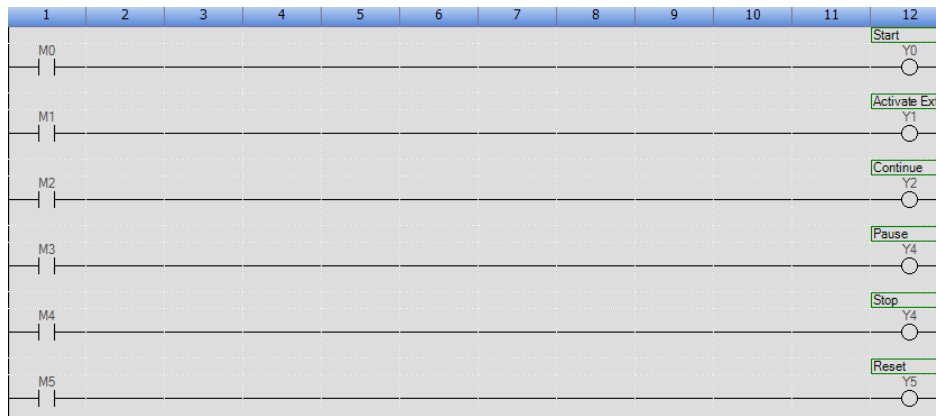

Figure 6.62 PLC program
Step 5 Create a new PLC project and build it on the GX Works3 programming software, as shown in Figure 6.62.